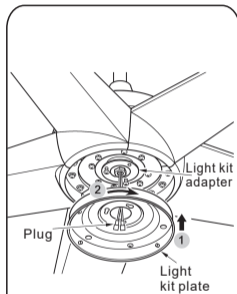

Fig. 20
Step 2: Slide the light kit plate up towards the light kit adapter and place the key holes over the screws on the light kit adapter. Turn light kit plate until it locks in place at the narrow section of key holes.(Fig. 20)